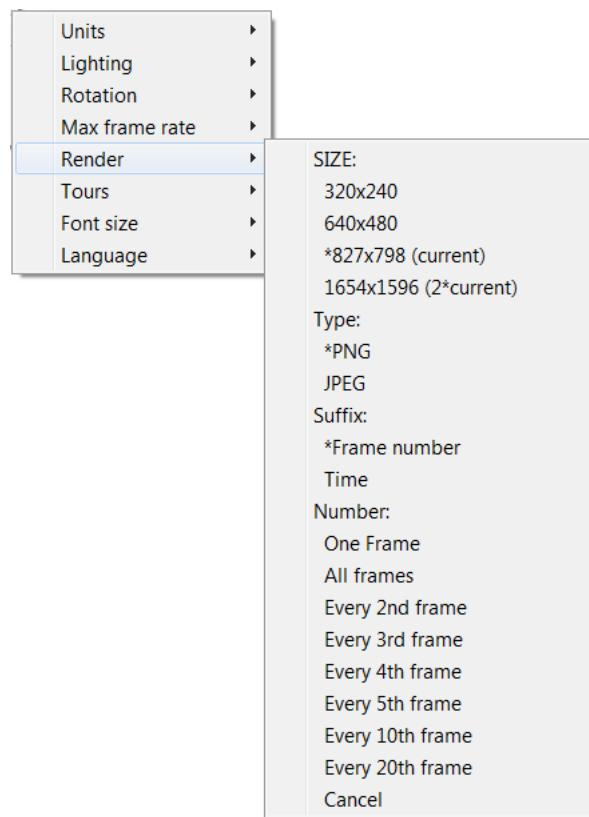

Figure B.8: Render Menu.
The **Render** menu, illustrated in Figure B.8, allows one to create PNG or JPEG image files of the currently displayed scene. The graphics library, GD 2.0.15, was used to create the rendered versions. GD 1.0 is documented in reference [12, Appendix 4]. GD 2.0.7 now creates images using *full color* allowing for more realistic scene representations eliminating the color banding that occurred with the previous version because of the limited number (256) of colors used to represent images. Due to patent disputes, GD 2.0.15 has dropped support for the GIF file format and uses JPEG or PNG instead.